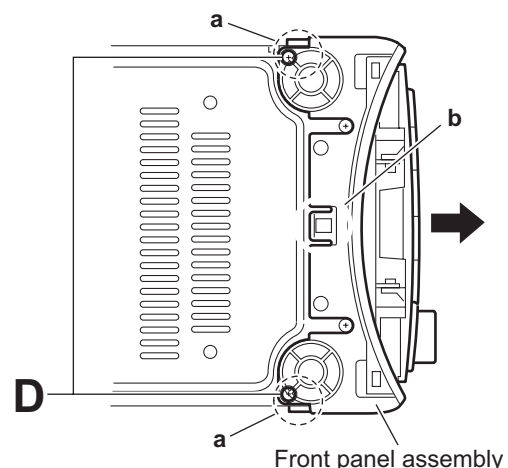

Fig.6
- (4) From the bottom side of the main body, remove the two screws **D** attaching the front panel assembly. (See Fig.6.)
- (5) Release the two hooks **a** and hook **b** from the both and bottom sides of the front panel assembly, and remove the front panel assembly in the direction of the arrow. (See Fig.6.)